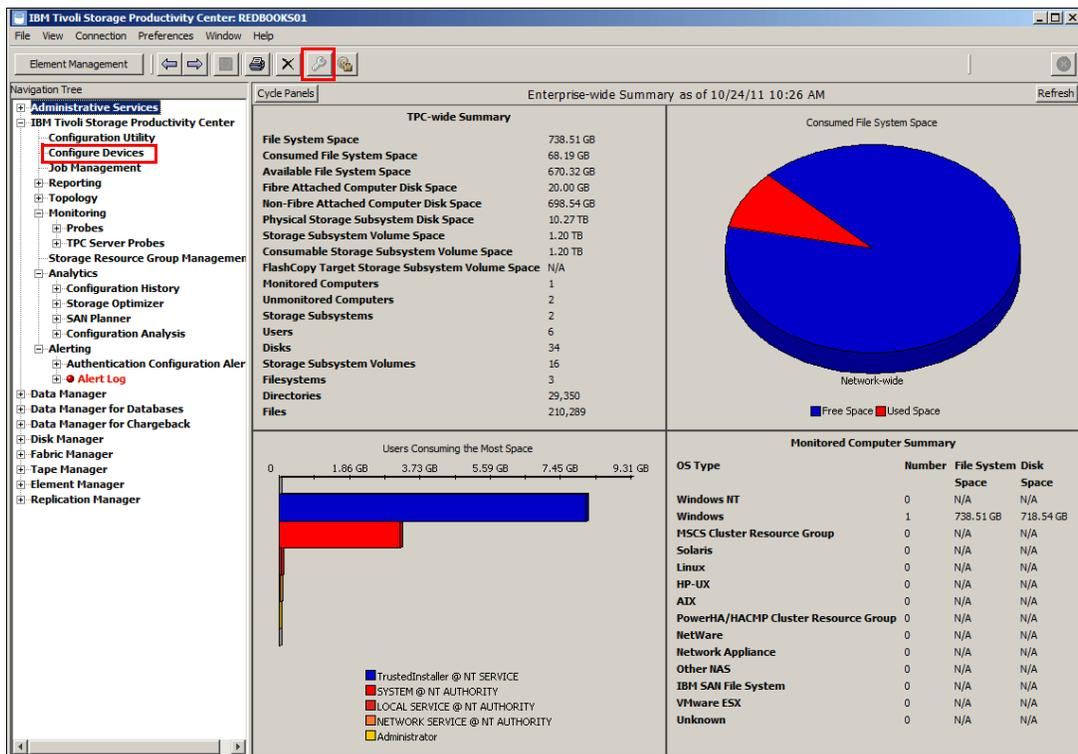

Figure 9-12 Launching the Configure Devices Wizard
1. To register the DS5000 CIMOM and add DS5000 Storage Servers as data sources in IBM Tivoli Storage Productivity Center, open the TPC console GUI, and click **Configure Devices** icon in the toolbar or select the Configure Devices node in the navigation tree (Figure 9-12).